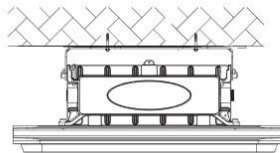

Figure 5
5. Hang the fixture into the lifting hook or chain. (Figure 5)
8. The fixture can adjust 30, 60, or 90 degrees to the left or right by adjusting the screws on the brackets. (Figure 5 & Figure A)